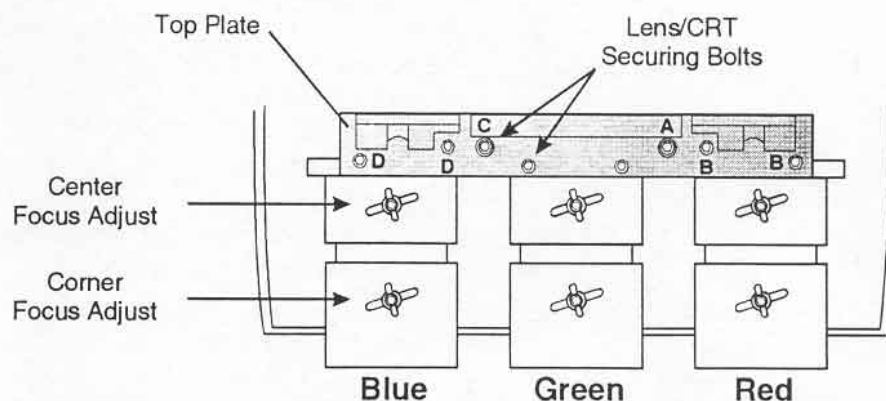

Figure 4-6. Lens Assemblies - Top View
- b) Examine the lenses and the lens mounting hardware. See Figure 4-6. Each lens consists of two sections, a rear section and a front section. The rear section sets the optical focus at the center of the image. This section is secured to the lens body by a wing nut at the top rear of the lens assembly. The front section sets the focus at the corners of the image; it is secured to the rear section by a wing nut at the top front of the lens assembly.